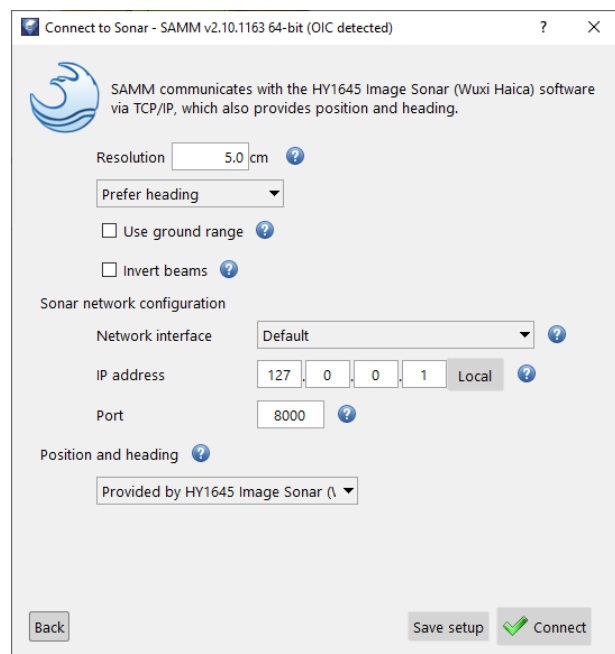

Figure 49. HY1645 Interfacing
6. In the HY1645 interface window (Figure 49), set processing parameters as necessary.